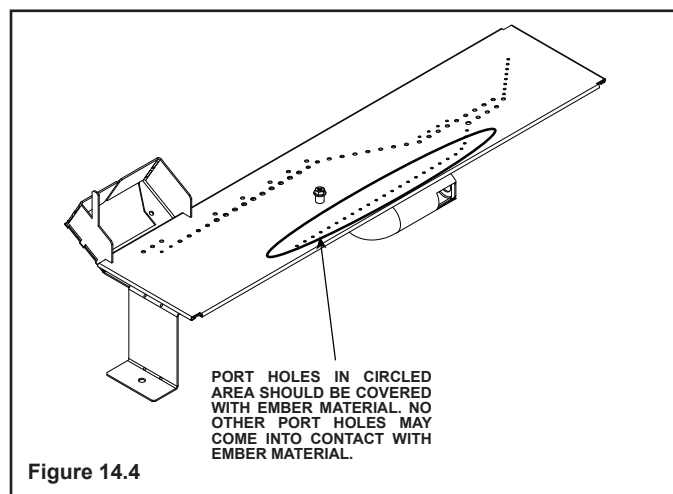

Figure 14.4
- Embers CANNOT be placed directly over ports. See Figure 14.4 for the only exception to this guideline. Care should be taken not to cover the lighting trail of ports (from back to front).
- Some of the small port holes should be covered with ember material. See Figure 14.4 for detail.
This appliance has an adjustable air shutter (which controls the primary air) factory set for the minimum vertical vent run (see Figure 14.4). If your installation has more than the minimum required vertical vent length, adjustment of the air shutter may be necessary to obtain optimal flame appearance. **This should be adjusted by a qualified installer at the time of installation.**